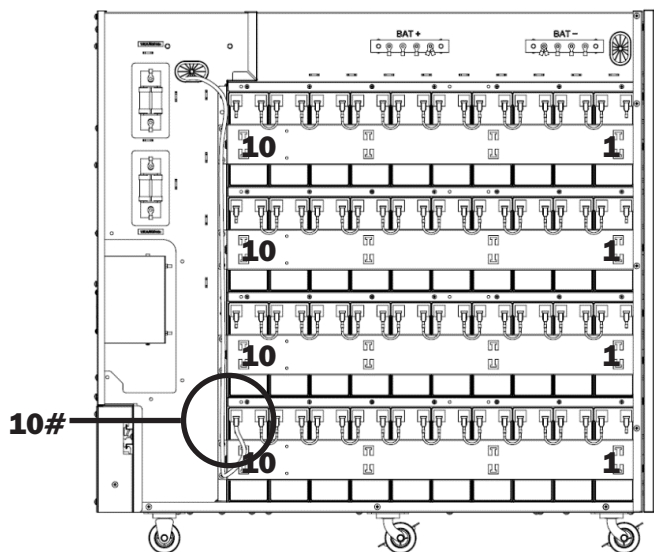

Figure 5-15A
19. Connect group 1 battery 10- to N battery bus bar (BAT N) (Figure 5-15A).